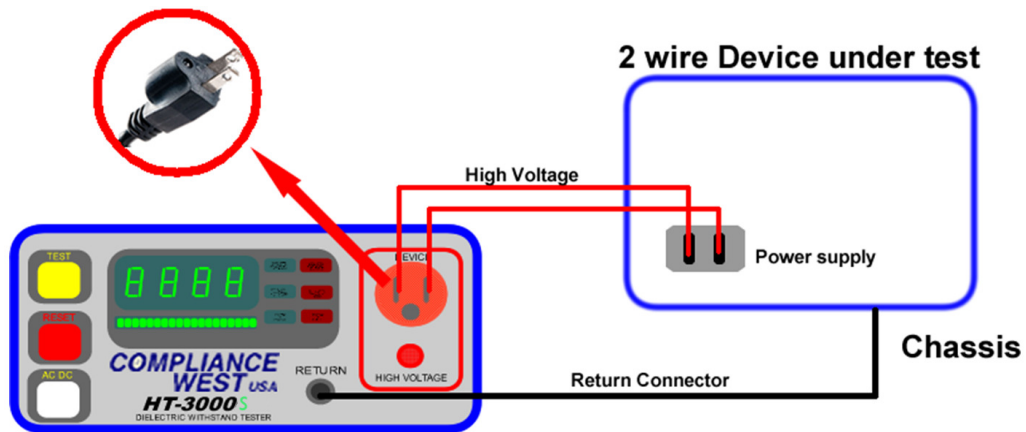

Figure 8. Testing a Two Wire Power Cord Device
4. Plug the power supply cord of the device being tested into the **Device** receptacle on the front panel of the HT-S unit. See Figure 8 for detailed connections.